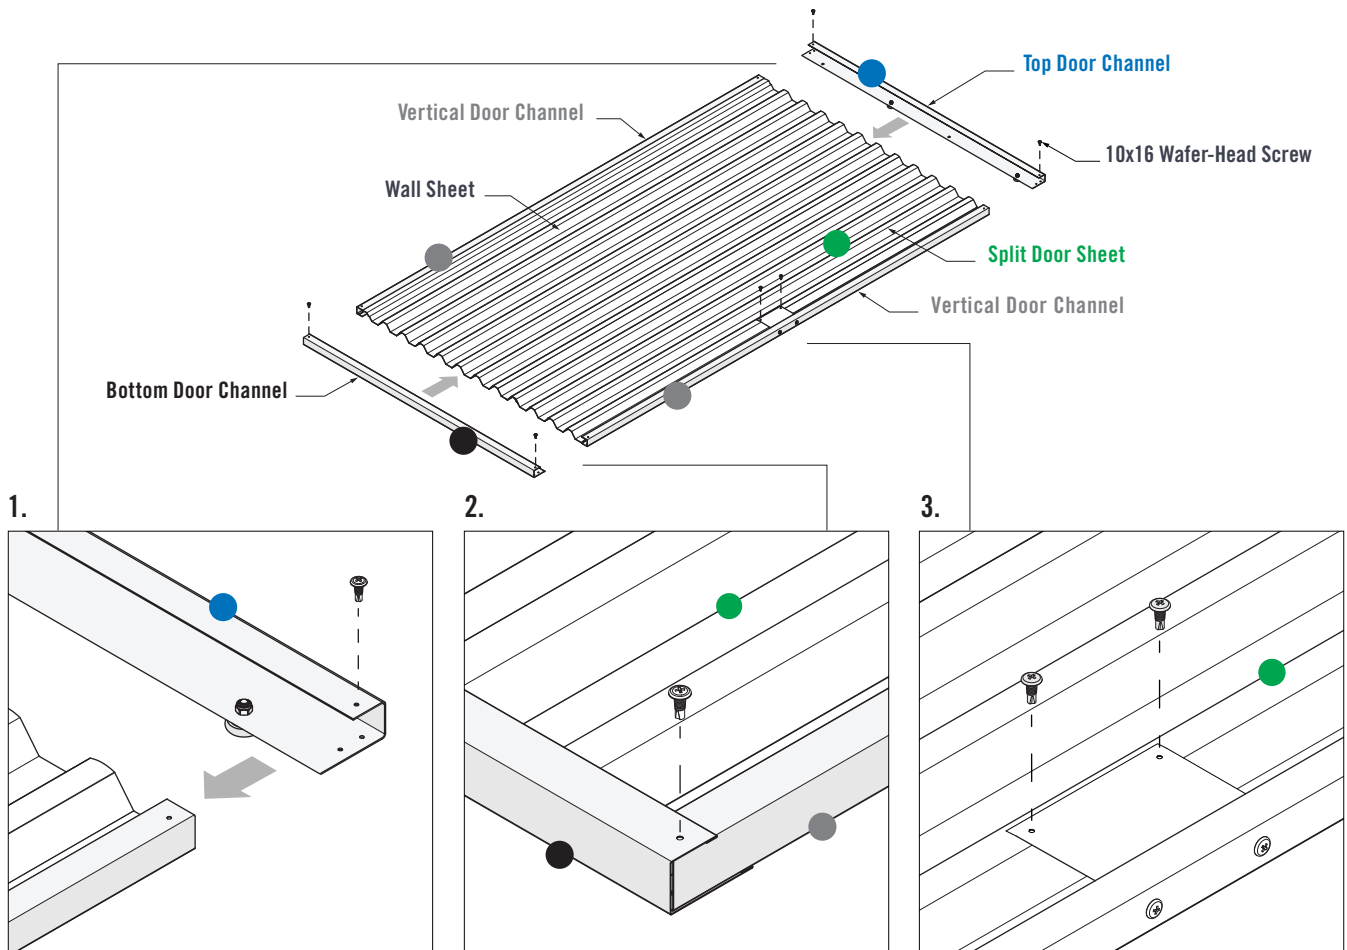

FIGURE 6.5
1. Fit the Vertical Door Channels over the side of the door sheets, then fit the Top and Bottom Door Channels over the door sheet ends. Ensure the lip of the Top and Bottom Door Channels fit over the Vertical Door Channels (Figure 6.5).
2. Fasten one 10x16 Wafer-Head Screw through the pilot holes in the corner of each Top & Bottom Channel and into the Vertical Door Channels (Figure 6.5).
3. Crest-fix two 10x16 Wafer-Head Screws through the pilot holes in the Handle Mount and into the Split Door Sheet (Figure 6.5).